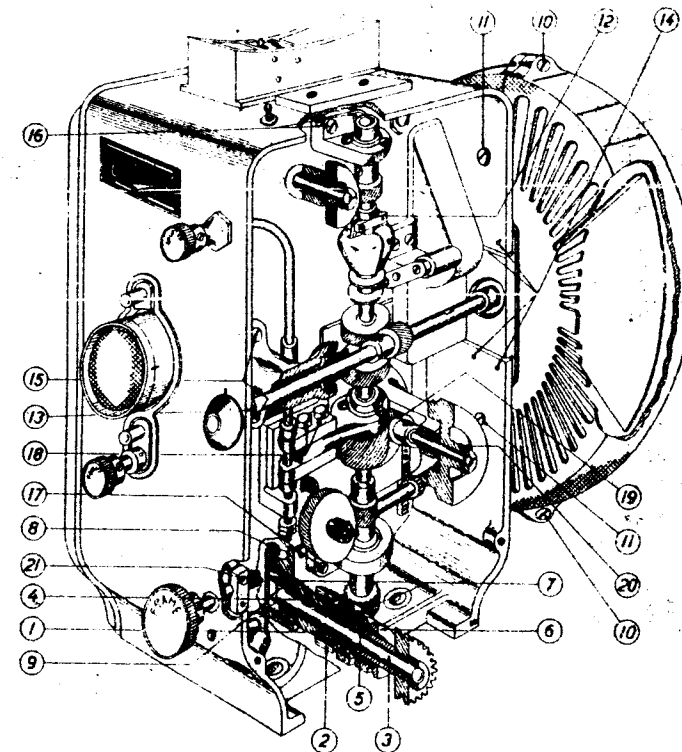

Fig. 4
- 1st - Remove the intermittent flywheel from driving side of projector by removing screw #20, Fig. 4.
- 2nd - Remove half of shutter guard from driving side by removing two screws #10, Fig. 4.
- 3rd - Remove shutter shaft indicating knob #13, Fig. 4, by loosening the set screw in its hub.
- 4th - Remove four screws #14, Fig. 4 (two upper and two lower) from shutter shaft bracket (outer).
- 5th - Remove two screws #15, Fig. 4, from shutter shaft inner bracket.
- 7th - Remove the two screws #16 and two screws #17, Fig. 4, from the upper and lower bearing brackets of the vertical shaft assembly. These brackets are also dowelled.
- 8th - Remove the two hex head screws #18, Fig. 4, on the bearing bracket and remove the vertical shaft assembly. Remove the Century GR-4-G steel gear from its lower end by removing the screw holding it to the shaft.
- 10th - Revolve the center bearing bracket to engage the arm, and insert the two screws #18, Fig. 4. Do not tighten.
- 12th - Turn the vertical shaft by hand a number of times and then tighten the two hex head screws #18, Fig. 4, holding the bearing bracket in place.
- 13th - Install the complete shutter shaft assembly and secure inner bearing bracket in place with screws #15, Fig. 4. Before tightening the four screws #14, Fig. 4, in the outer bearing bracket, adjust for proper mesh of the shutter shaft gears. The gears should be meshed close enough to prevent an excessive amount of backlash but not sufficiently close to cause binding.
- 15th - Assemble intermittent flywheel and secure in place with screw #20, Fig. 4.
- 16th - Replace half of shutter guard with screw #10, Fig. 4.